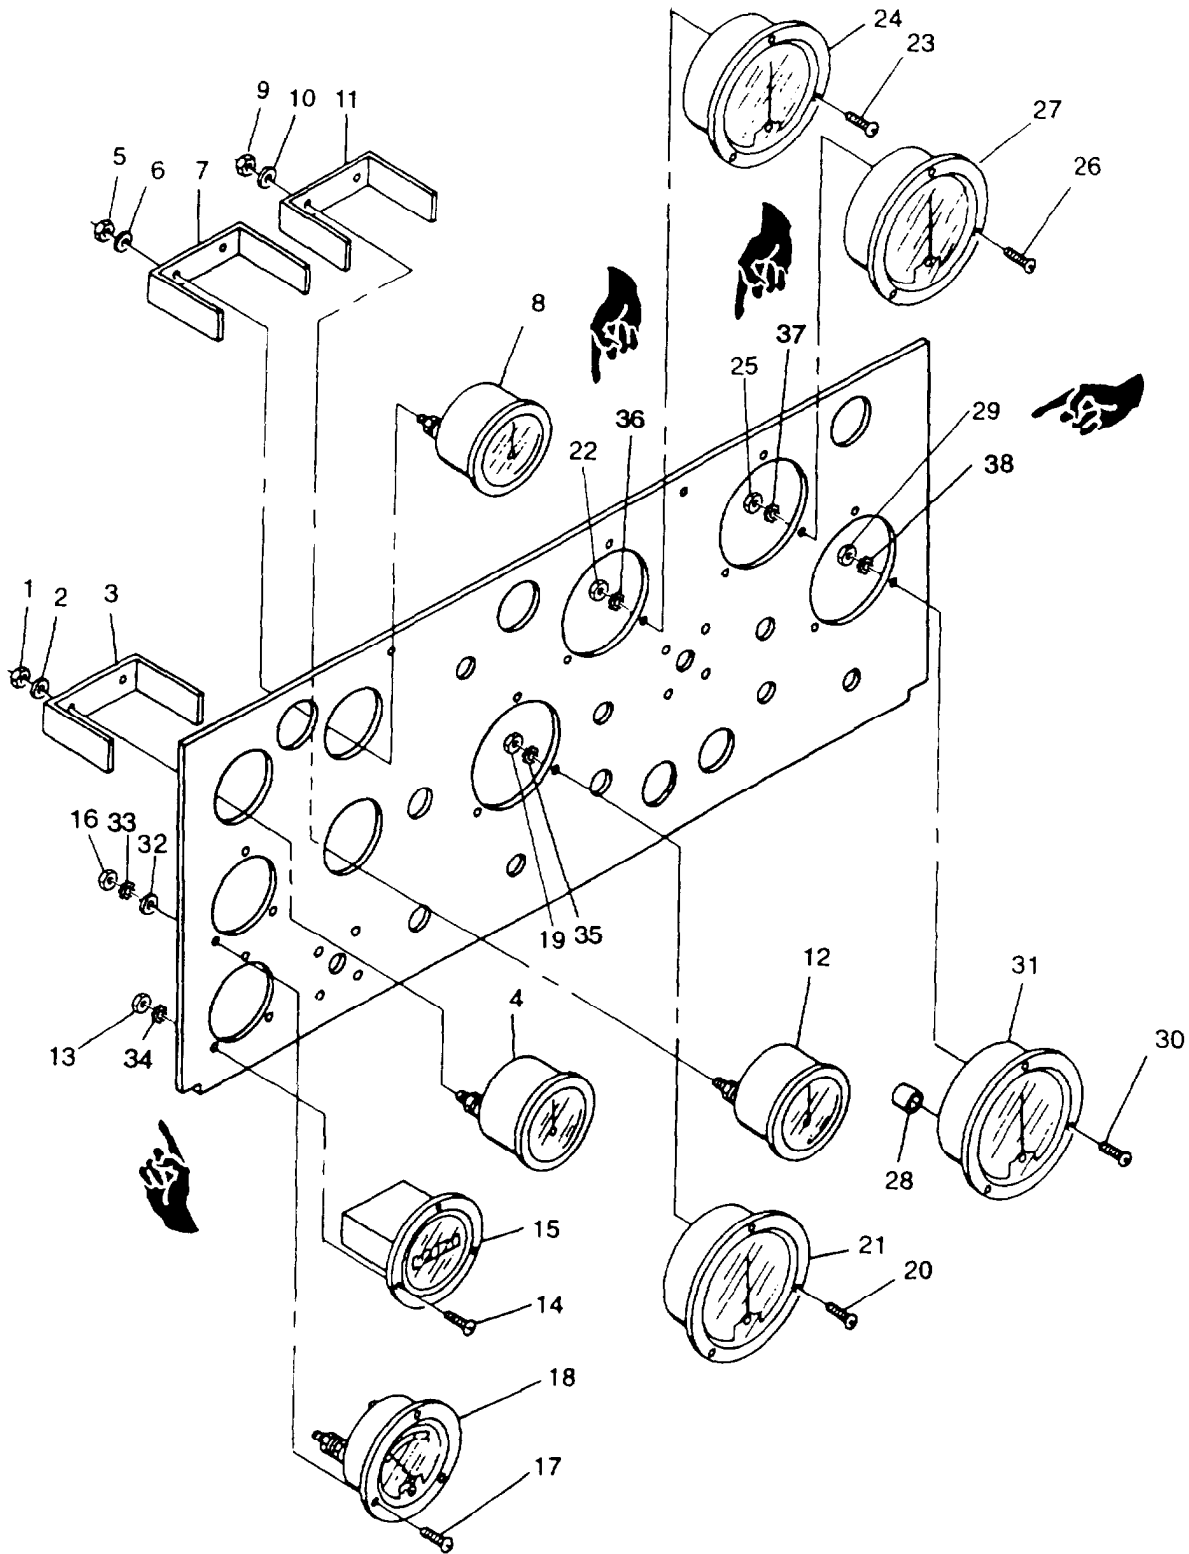

FIGURE 2-12. Control Panel Indicators
- d. Tag and disconnect COOLANT TEMP. indicator (8, FIGURE 2-12) electrical leads.
- e. Remove nuts (5), washers (6), and clamp (7).
- f. Remove COOLANT TEMP. indicator (8) from control panel.
- a. Insert COOLANT TEMP. indicator (8, FIGURE 2-12) in control panel.
- b. Install damp (7), washers (6), and nuts (5).
- d. Tag and disconnect OIL PRESSURE indicator (12, FIGURE 2-12) electrical leads.
- e. Remove nuts (9), washers (10), clamp (11), and ground wire.
- f. Remove OIL PRESSURE indicator (12) from control panel.
- a. Insert OIL PRESSURE indicator (12, FIGURE 2-12) into control panel.
- b. Install clamp (11), washers (10), and nuts (9).
- d. Tag and disconnect time meter (TOTAL HOURS) (15, FIGURE 2-12) electrical leads.
- e. Remove screws (14), washers (34), and nuts (13)
- f. Remove time meter (TOTAL HOURS) (15) from control panel
- a. Insert time meter (TOTAL HOURS) (15, FIGURE 2-12) into control panel
- b. Install screws (14), washers (34), and nuts (13)
- d. Tag and disconnect BATTERY CHARGE ammeter (18, FIGURE 2-12) electrical leads
- e. Remove nuts (16), washers (32, 33), and screws (17)
- f. Remove BATTERY CHARGE ammeter (18)
- a. Insert BATTERY CHARGE ammeter (18, FIGURE 2-12) into control panel
- d. Tag and disconnect FREQUENCY meter (HERTZ) (21, FIGURE 2-12) electrical leads.
- e. Remove nuts (19), washers (35), and screws (20).
- f. Remove FREQUENCY meter (HERTZ) (21) from control panel.
- a. Insert FREQUENCY meter (HERTZ) (21, FIGURE 2-12) into control panel.
- b. Install screws (20), washers (35), and nuts (19).
- d. Tag and disconnect ammeter (PERCENT RATED CURRENT) (24, FIGURE 2-12) electrical leads.
- e. Remove nuts (22), washers (36), and screws (23).
- f. Remove ammeter (PERCENT RATED CURRENT) (24) from control panel.
- a. Insert ammeter (PERCENT RATED CURRENT) (24, FIGURE 2-12) into control panel
- b. Install screws (23), washers (36) and nuts (22).